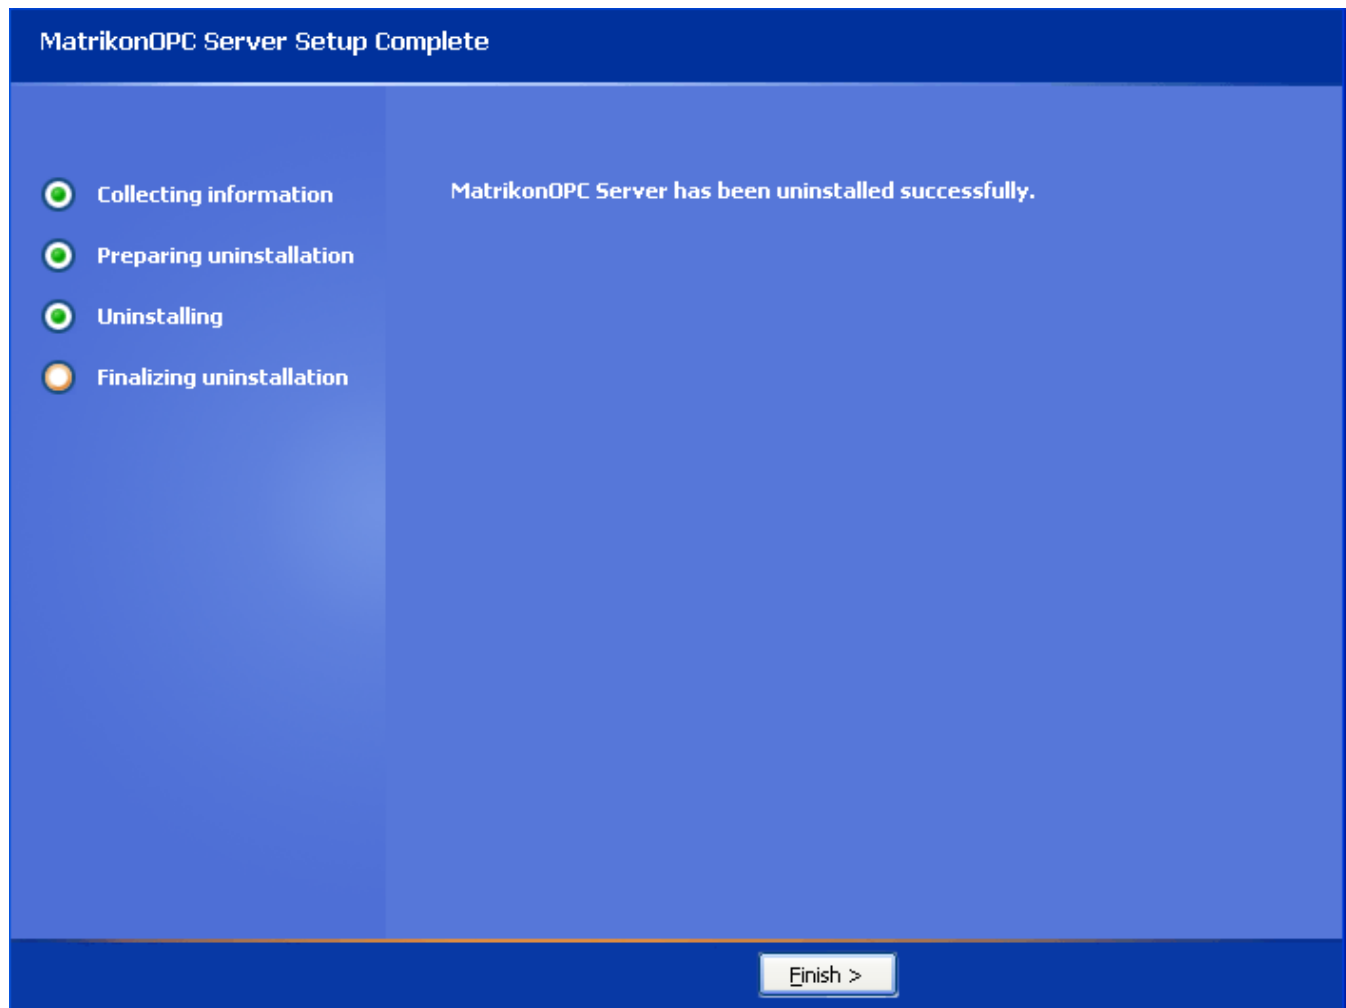

Figure 82 - MatrikonOPC Server for Mitsubishi PLCs Setup Complete Screen
11. When the un-install has finished, the **MatrikonOPC Server for Mitsubishi PLCs Setup Complete** screen (Figure 82) appears stating that MatrikonOPC Server for Mitsubishi PLCs was successfully un-installed.